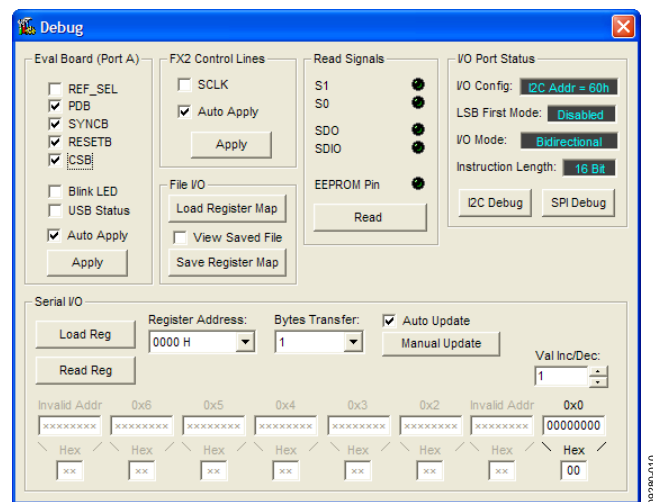
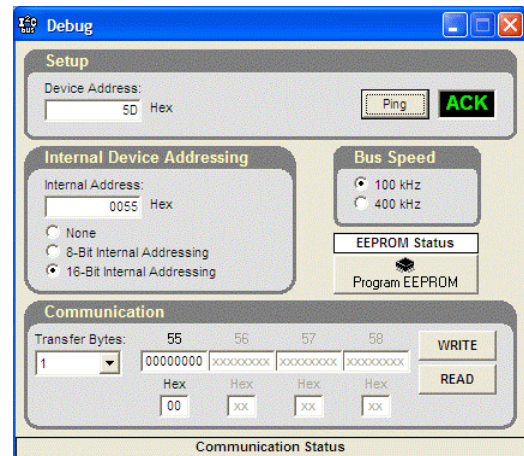

Figure 9. Debug Window
Figure 28. Evaluation Software I²C Debug Window
The **Debug** window, accessed by selecting **Debug Window** from the **View** menu, allows you to write and read registers directly and to force the various configuration pins high or low (see Figure 9).
7. From the **View** menu on the menu bar, select **Debug Window**. From the **Debug** window (see Figure 9), click the **I²C Debug** button under the **I/O Port Status** section. The window shown in Figure 28 appears.
8. Enter the I²C address set by Jumper P5 and Jumper P6 on the AD9523-1 evaluation board, and click **Ping**. The user should see a green **ACK** message as shown in Figure 28. Repeat this step for the I²C address of the target AD9523-1. If **ACK** is returned for both addresses, the remote AD9523-1 is ready to be programmed. If the ping test fails, double-check the cabling between the boards, as well as the I²C address of the target AD9523-1. Ensure that the I²C address of the AD9523-1 on the evaluation board is different from the target AD9523-1. Also, disconnect the jumper cable, and make sure that I²C mode is working properly on the AD9523-1 evaluation board.